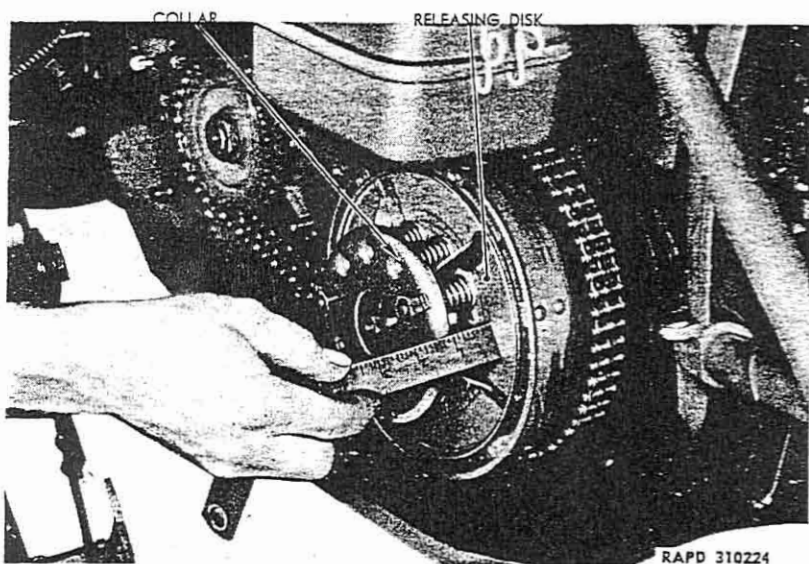

Figure 27—Measuring Distance Between Spring Collar and Disk
(4) After clutch spring tension adjustment is made, bend up nut lock lips to secure adjusting nuts. Replace any broken or badly damaged locks.
(5) When a new clutch is originally assembled and adjusted, the distance from the inner edge of shoulder on spring collar to face of outer (releasing) disk is $1\frac{3}{32}$ inches (fig. 27). In any case, do not tighten the three adjusting nuts to the point where inner edge of shoulder of spring collar is closer than $\frac{7}{8}$ inch to face of outer (releasing) disk. If compressed more, clutch probably cannot be fully disengaged.
(4) Engage remaining steel disk with shell splines with "OUT" side facing outward.
(5) Install "sprung" (one side lined) steel disk, lined side inward, on clutch hub studs.
(6) It will be noted that the three long, threaded-end, clutch hub studs are not spaced an equal distance apart. It will also be noted that the three holes (keyhole shaped) in the spring collar are not spaced equidistantly. Therefore, when installing releasing disk and spring assembly on clutch hub studs, the three threaded studs and holes in spring collar must be aligned. Install assembly on studs, replace the three nut locks, replace the three adjusting nuts, and tighten all three evenly until the distance between shoulder of spring collar and face of releasing disk is $1\frac{1}{32}$ inch (fig. 27).
(7) Remove the large washer and replace push rod adjusting screw lock nut. Do not attempt adjustment of clutch release lever and push rod adjusting screw until outer front chain guard and foot-board have been installed.